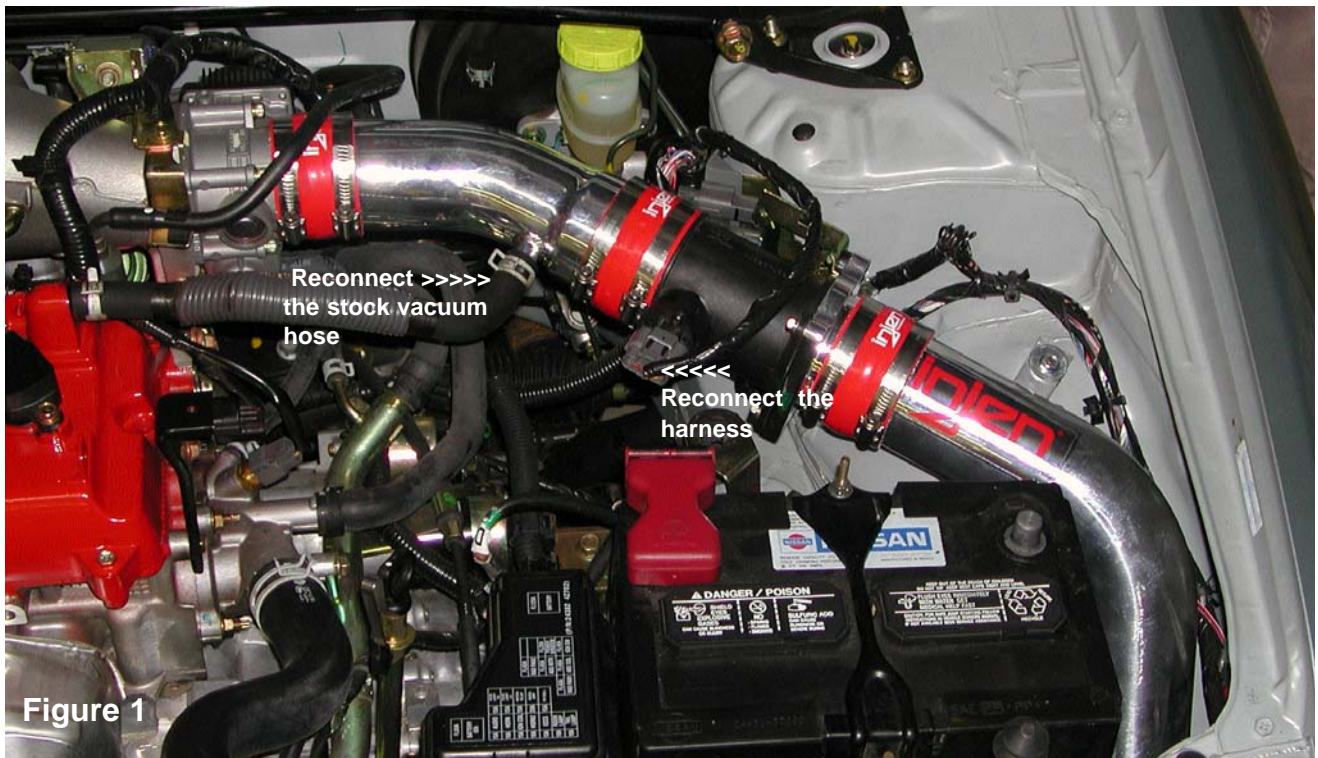

Figure 1
- 12 Align the entire cold air intake for best fit. Once proper clearance has been made continue to tighten all nuts, bolts, and clamps. See figs. 1 and 11